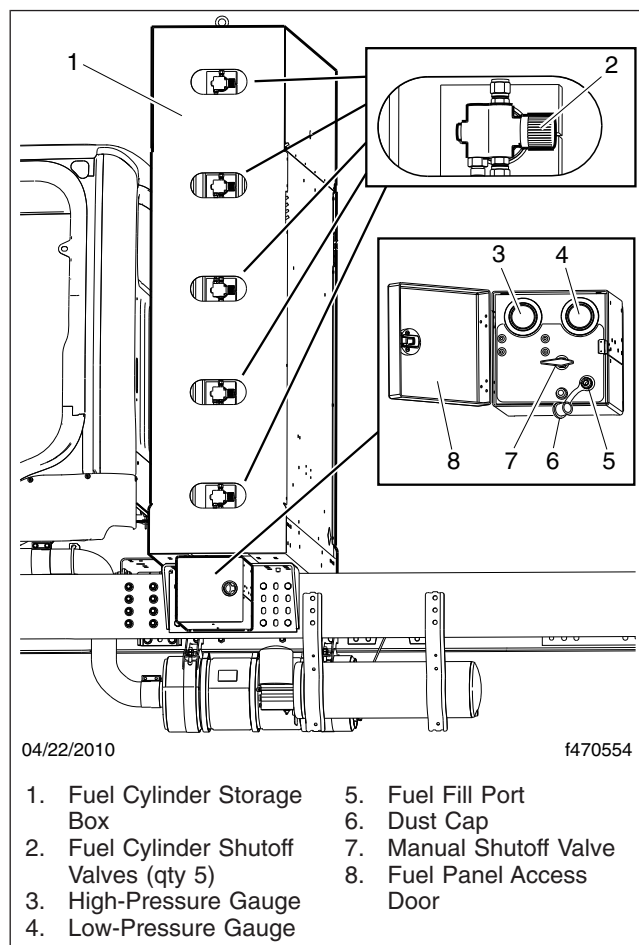

Fig. 12, CNG Fuel Cylinder Storage Box (5-cylinder system shown)
- Fuel cylinder shutoff valves (see Fig. 12)